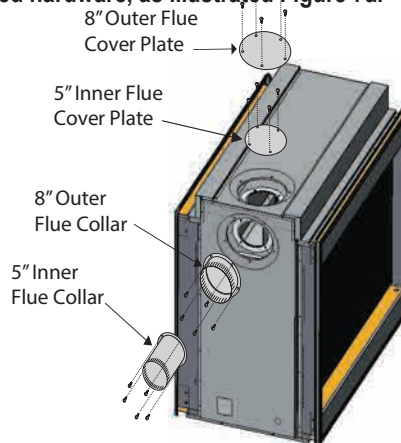

Figure 7a. Flue cover and collar installation, Side Vented fireplace.
- as illustrated Figure 7a.
4. Install the (5" and 8") collars to the Side vent outlet using the included hardware, as illustrated Figure 7a.